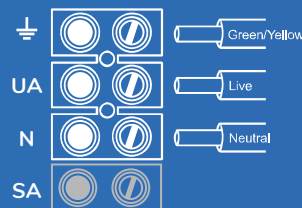

Fig 2. terminate
4. Run the cables through the cable hole into the bracket. Strip, connect and terminate the cables as in (fig 2). Ensure the insulation of the cables passes completely into the mounting bracket so that no single insulation is exposed. Be careful with multi-strand conductors.